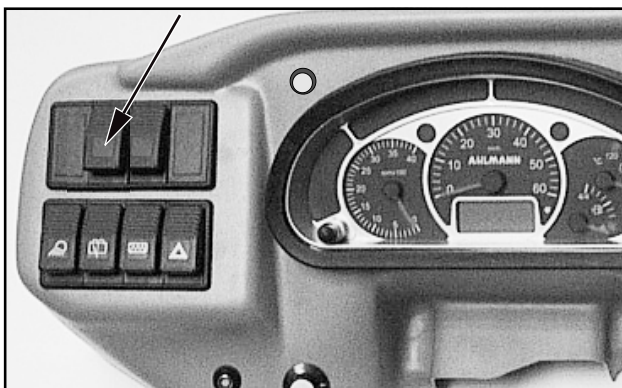

Figure 4-9c
- 2 - Pushbutton for fan reversal unit (option) see fig. 4-9c